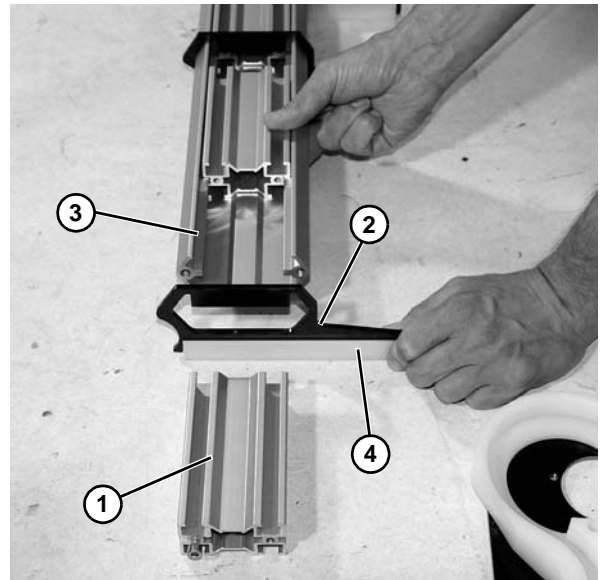

Figure 75
7. Remove each extrusion (**Figure 75, item 1**) and support plate (**Figure 75, item 2**) from crossmember (**Figure 75, item 3**).
8. Inspect and replace wear strip (**Figure 75, item 4**) if necessary.